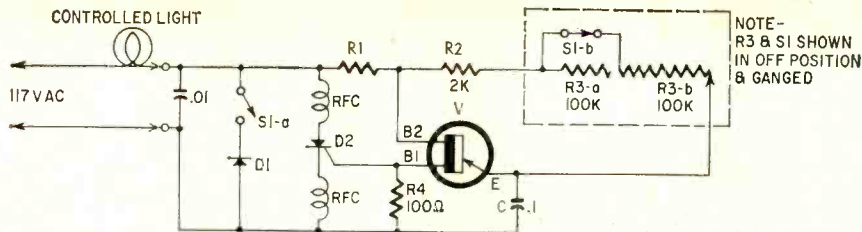

Fig. 2—The Slater Hi-Lux contains three semiconductor elements—a unijunction transistor, a silicon-controlled rectifier and a silicon rectifier.
Fig. 2 is the circuit of the Slater Hi-Lux. The SCR's (D2) gate voltage—and thus its firing angle—is controlled by a unijunction transistor (V) connected as a multivibrator. Capacitor C charges through R1, R2 and R3 until its voltage reaches the emitter peak voltage (V_p). At this time, the unijunction turns on and C discharges through R4. When the emitter voltage drops to a fairly low value (for example, 2 volts in some unijunction transistors) the unit turns off and the cycle repeats. The oscillator frequency is fairly independent of supply voltage and is determined by the values of R1, R2, C and the setting of R3.